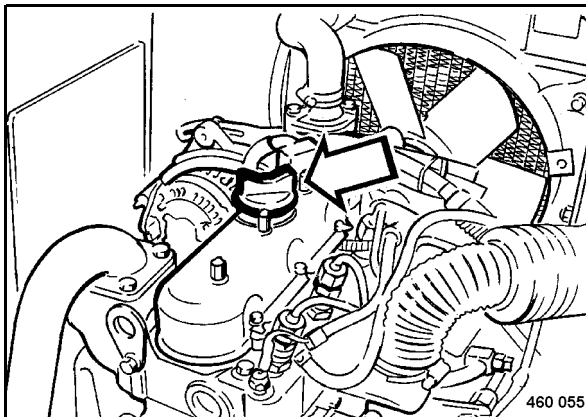

Fig. 93
- Remove the lid from the oil filler opening (Fig. 93).